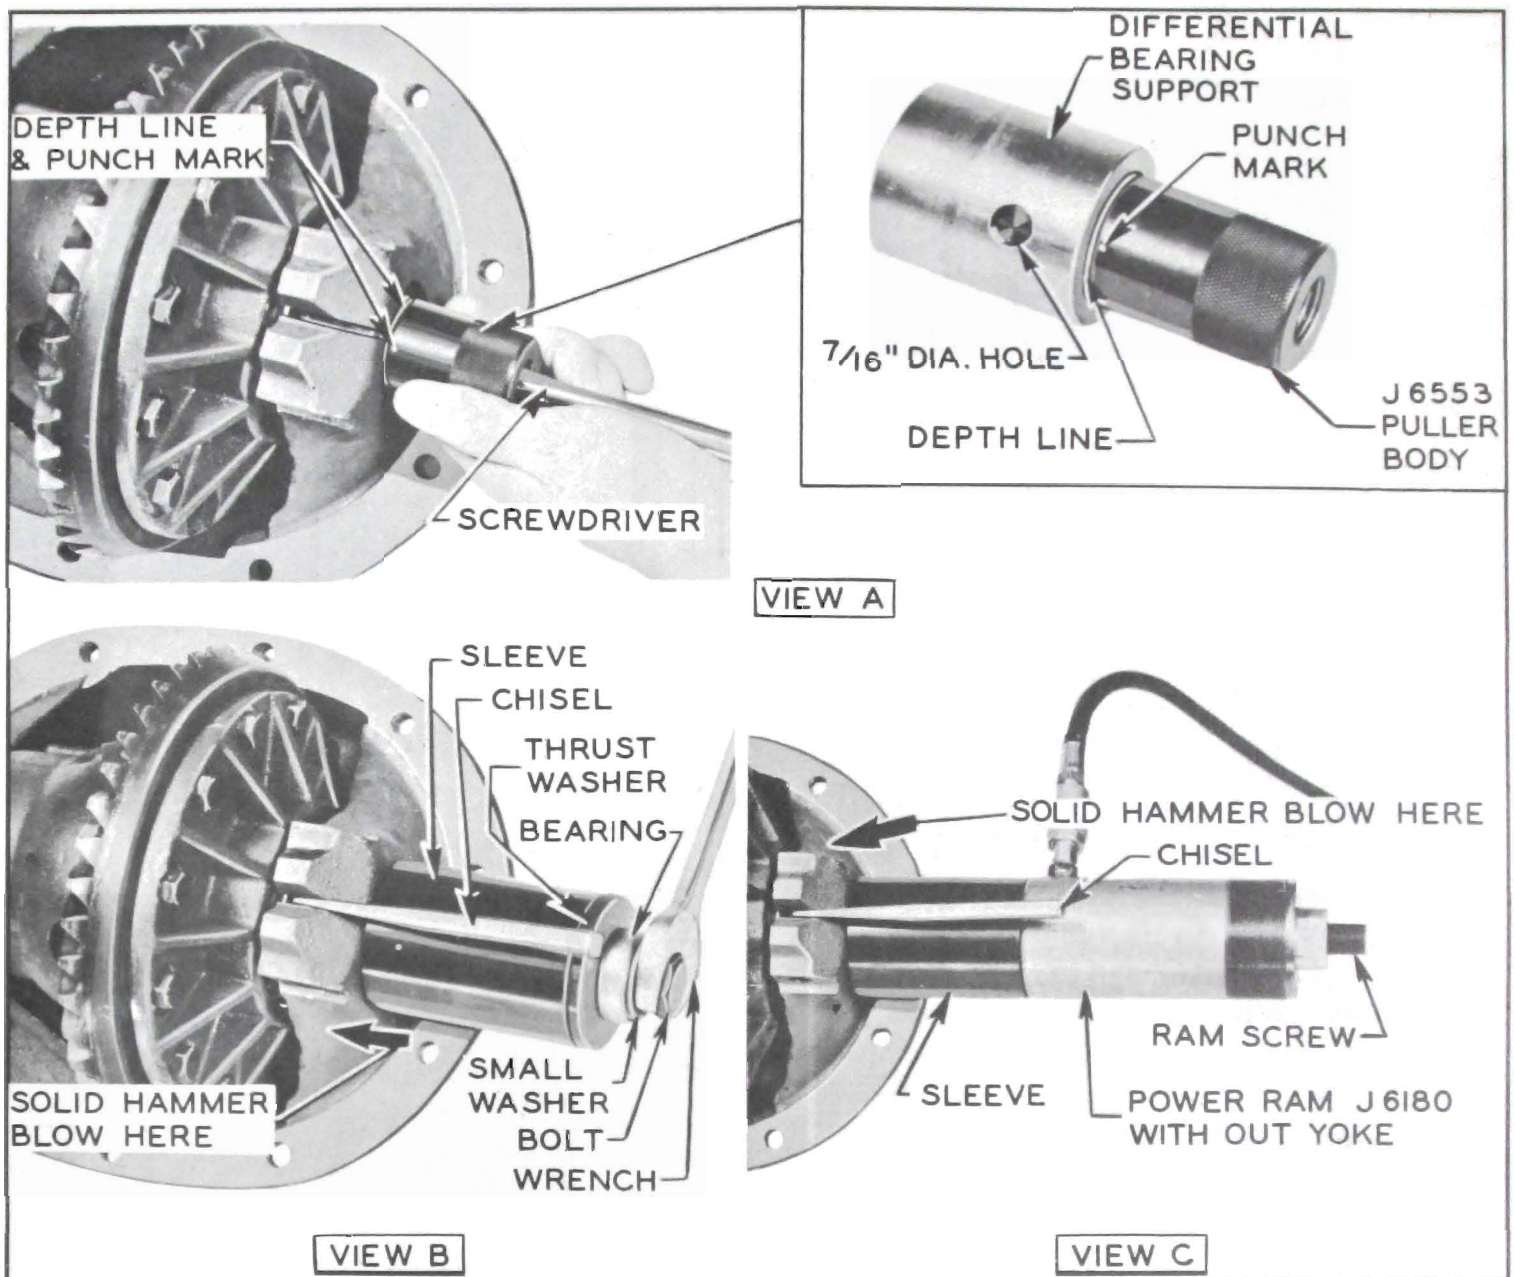

Figure 6-17—Removing Differential Bearing Support
(a) Using a screwdriver, turn expanding screw in puller body in a counterclockwise direction to retract pins, then insert puller body into differential bearing support until reference line on tool is flush with end of support and punch mark is in general direction of hole in support. See Figure 6-17, View A.
(1) Place sleeve over puller and install draw bolt with large thrust washer, thrust bearing, and small washer as shown in Figure 6-17, View B; then thread draw bolt in tapped hole in puller body. Using a suitable wrench, apply a reasonable amount of torque to draw bolt; then strike carrier pedestal with a solid hammer blow as shown in Figure 6-17, View B.
(2) Place sleeve over puller and install hydraulic ram screw as shown in Figure 6-17, View C. Place a reasonable load on ram, then strike carrier pedestal a solid hammer blow in direction of heavy arrow.